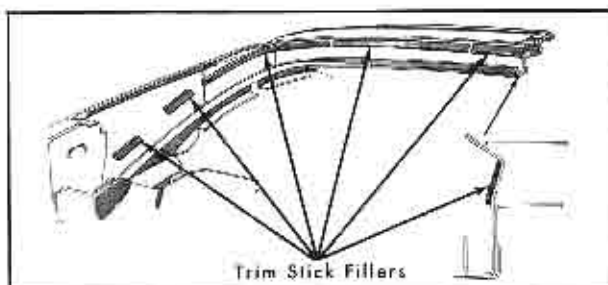

Fig. 3-107 Location of Trim Stick Fillers
3. Inspect rubber trim stick fillers which are cemented to the body in the locations shown in Fig. 3-107. Re-cement if necessary and check to